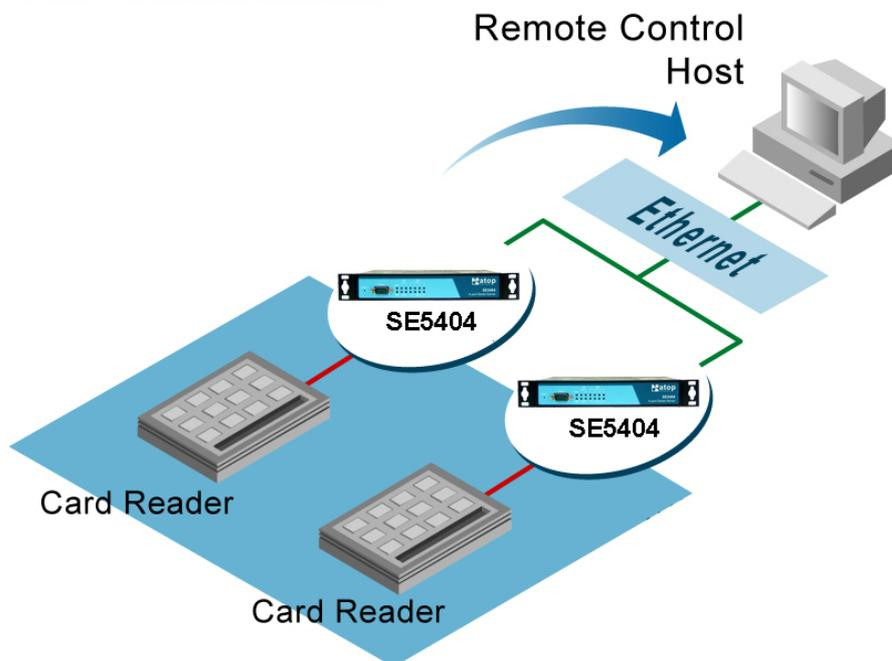

Figure 1.2 TCP Client Mode
**TCP Client Mode** : SE5404 can be configured in a TCP client mode on a TCP/IP Network to actively establish a connection with an applications server –the host computer. After the connection is established, data can flow in both directions (Figure 1.2).